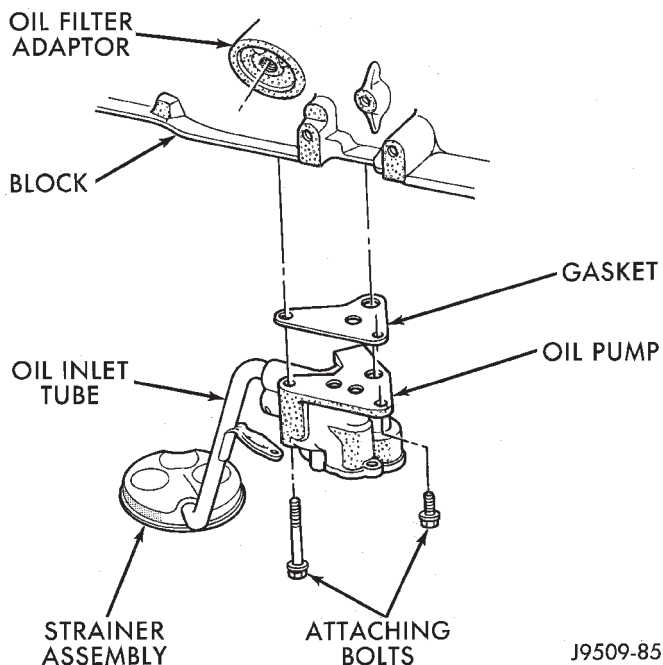

Fig. 5 Oil Pump Assembly
- (1) Drain the engine oil.
- (2) Remove the oil pan.
- (3) Remove the pump-to-cylinder block attaching bolts. Remove the pump assembly with gasket (Fig. 5).